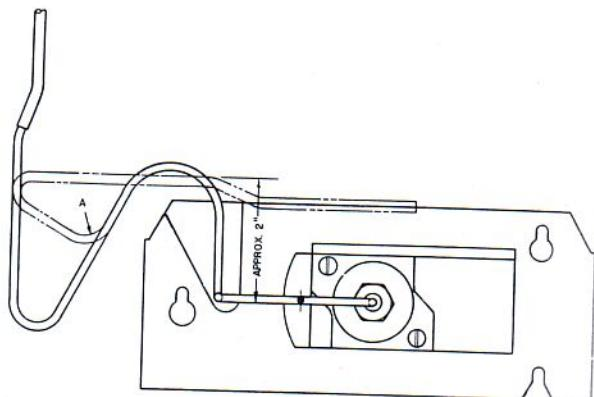

Fig. 122
10. The bellows tube is bent ready for installation, except for one additional bend necessary for shipping. Straighten the extra bend in the bellows tube as indicated in Fig. 122.